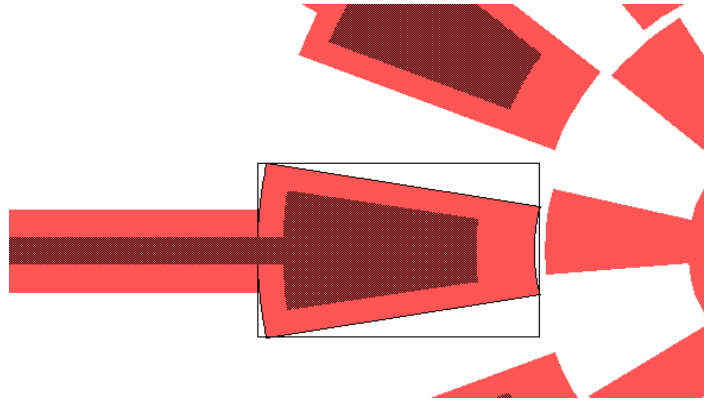

Figure 32: Curving the left most edge of the polygon
- ☑ Press the **Ctrl** key, hold and drag the center mouse button (**Alt+Left** hold for two button mice) to the left to convert the straight edge into a curved edge. Release the mouse button to complete this action (Figure 32).